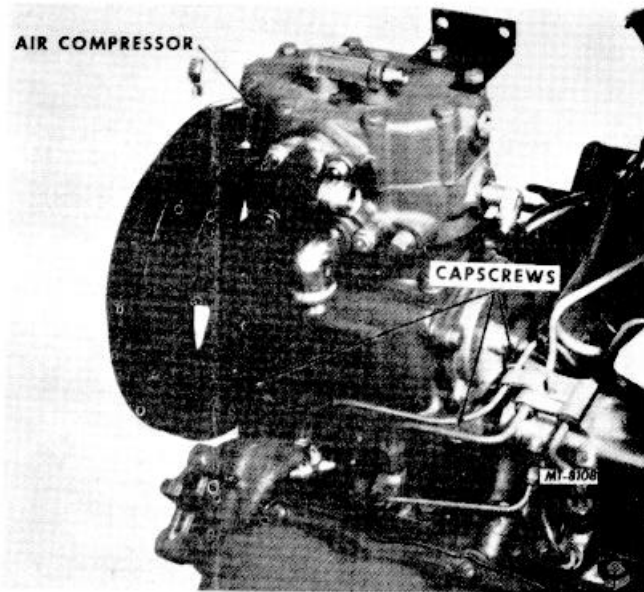

Fig. 29 Air Compressor Mounting Capscrews
- Loosen four capscrews and lockwashers and remove air compressor and gasket (Fig. 29).